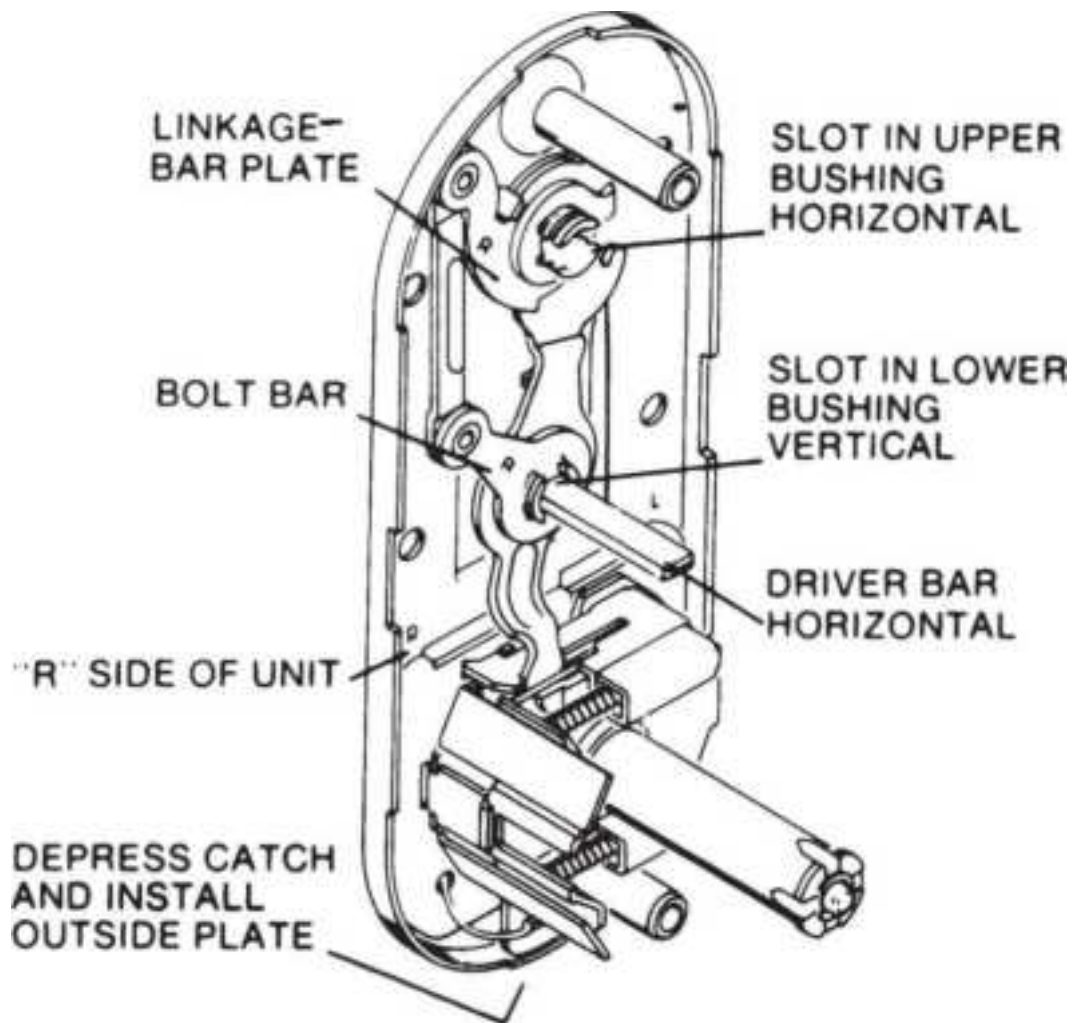

**Figure 13.114** Right-hand conversion, Step 22.
22. Check your work (Fig. 13.114 ).